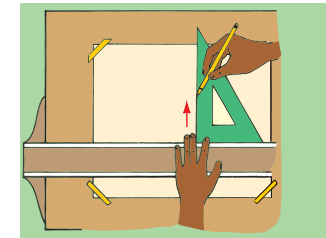

Figure 3-28. Note how the pencil is held to draw vertical lines using a triangle.
- When drawing vertical lines with a drafting triangle, lean the pencil away from you and draw the lines from bottom to top. See **Figure 3-28**.